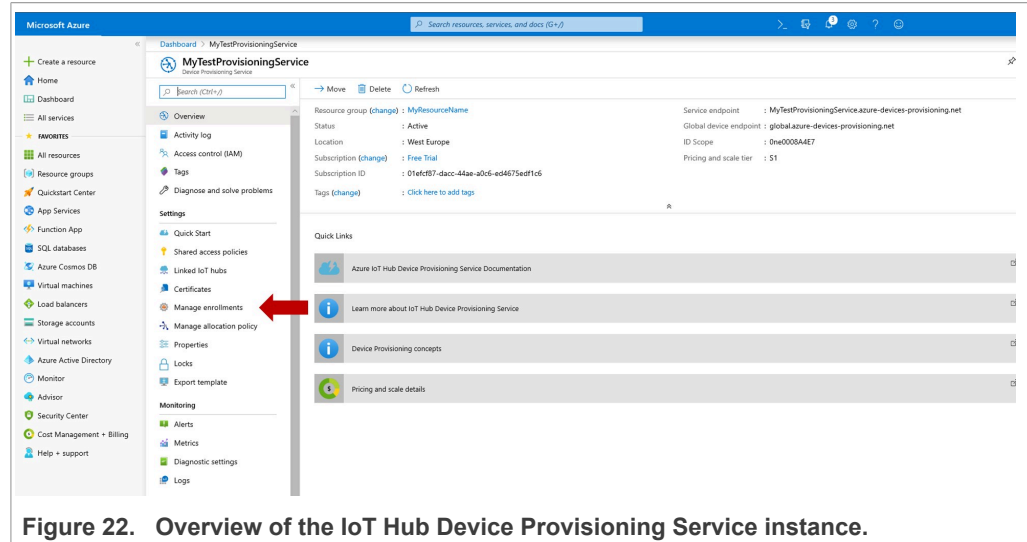

Figure 22. Overview of the IoT Hub Device Provisioning Service instance.
2. Choose **Manage Enrollments** from the Azure IoT Hub Device Provisioning Service dashboard as shown in Figure 22.